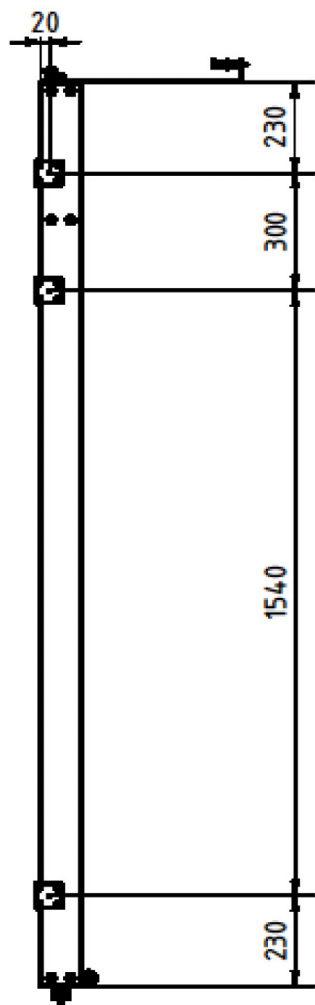
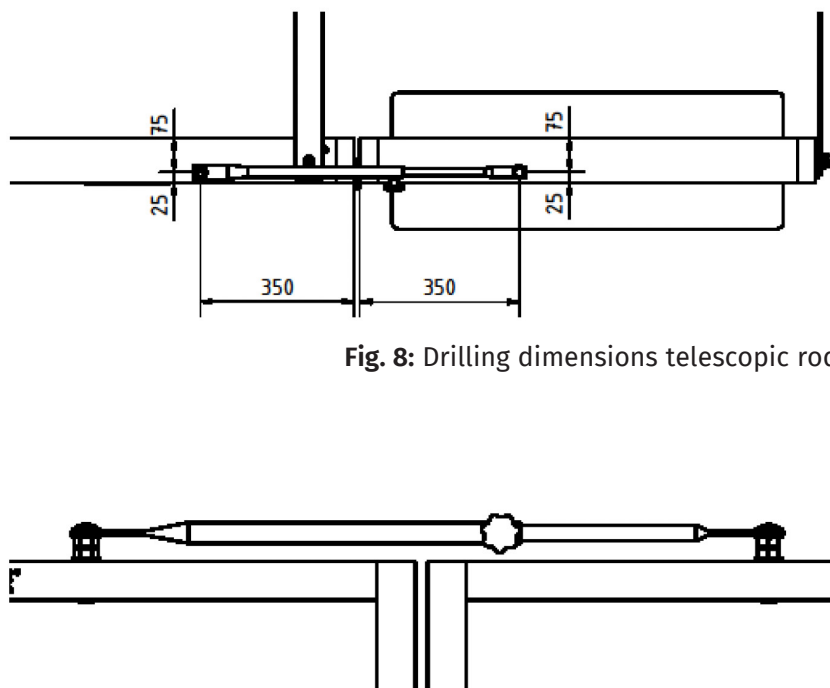

Fig. 7: Attaching hinges
Fig. 8: Drilling dimensions telescopic rod
After assembling the tiltable elements, mount the swinging element. First, apply the felt pad (7) to the underside of the element. Next, drill the holes for the telescopic rod into the upper cheeks of the corresponding elements ($\varnothing$ 9, see Fig. 8). Fix the swinging element laterally to the cheek of the fixed element using the 3 hinges (14) and Spax screws (38) as shown in Fig. 7. Ensure that the elements are aligned flush in the folded state. Next, drill the hole for the wall bracket and attach it. Then screw in the locking screw at the top and the locking foot at the bottom of the outer cheek.